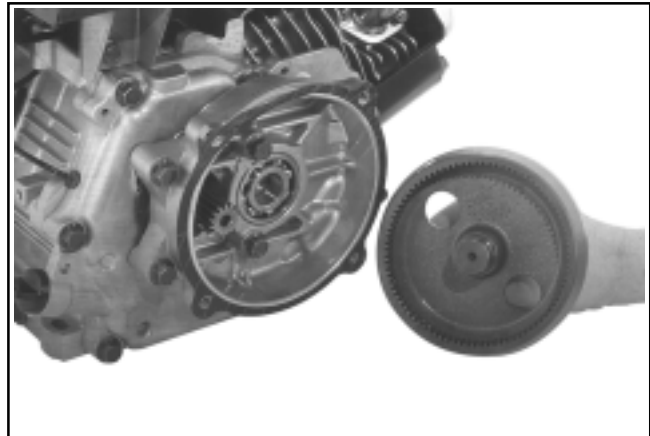

Figure 9-65. Removing Ring Gear/Shaft.
4. Remove the ring gear/output shaft assembly. See Figure 9-65.